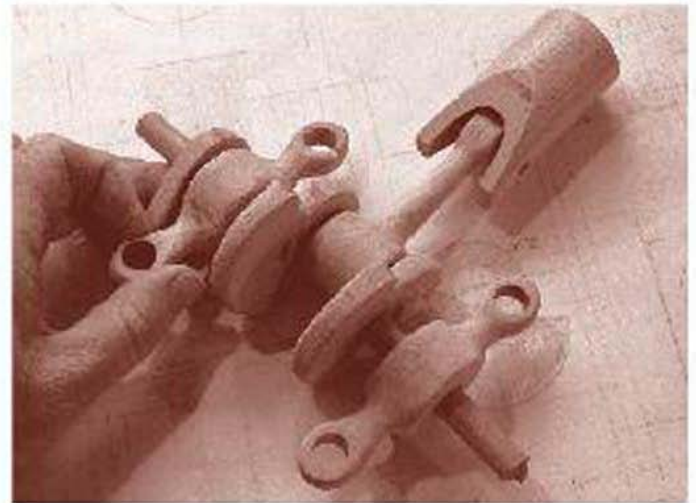
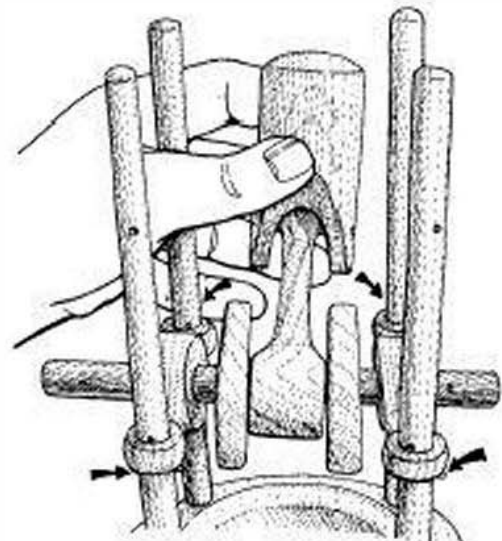

FIGURE 4-24
FIGURE 4-25
- 4** One piece at a time, fit the piston in the cross-shaped casing, set the crankshaft bearings in place on the dowel ends (Fig 4-24), and set the pair of bearings on the four support dowels (Fig 4-25). Fit little pegs to hold the various components at the correct height.